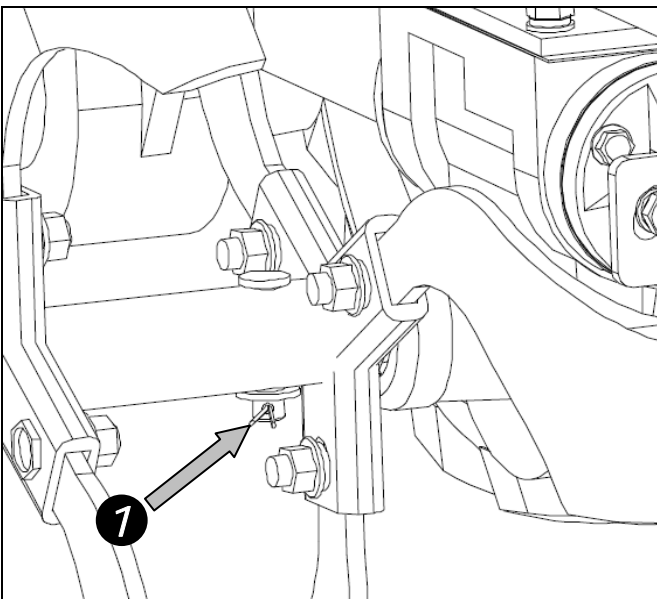

Fig.4
3. Insert the clip1(Fig.4) into the hole of the lock-pin shaft, and fix the clip by bent it on the end.